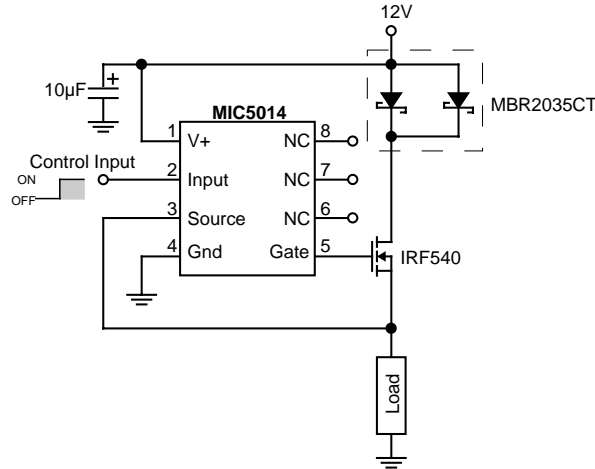

Figure 12: High Side Driver With Load Protection
**High Side Driver With Load Protection** (Figure 12) Although the MIC5014/15 devices are reverse battery protected, the load and power FET are not, in a typical high side configuration. In the event of a reverse battery condition, the internal body diode of the power FET will be forward biased. This allows the reversed supply access to the load.